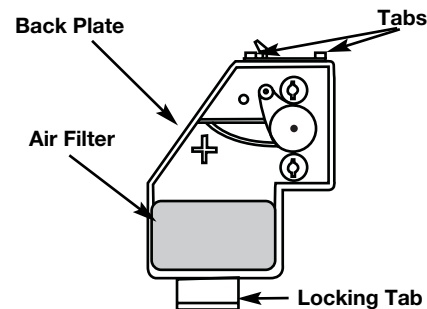

Fig. 49
7. Reinstall the air filter cover. Position the slots on the top of the air filter cover onto the tabs at the top of the back plate (Fig. 49).